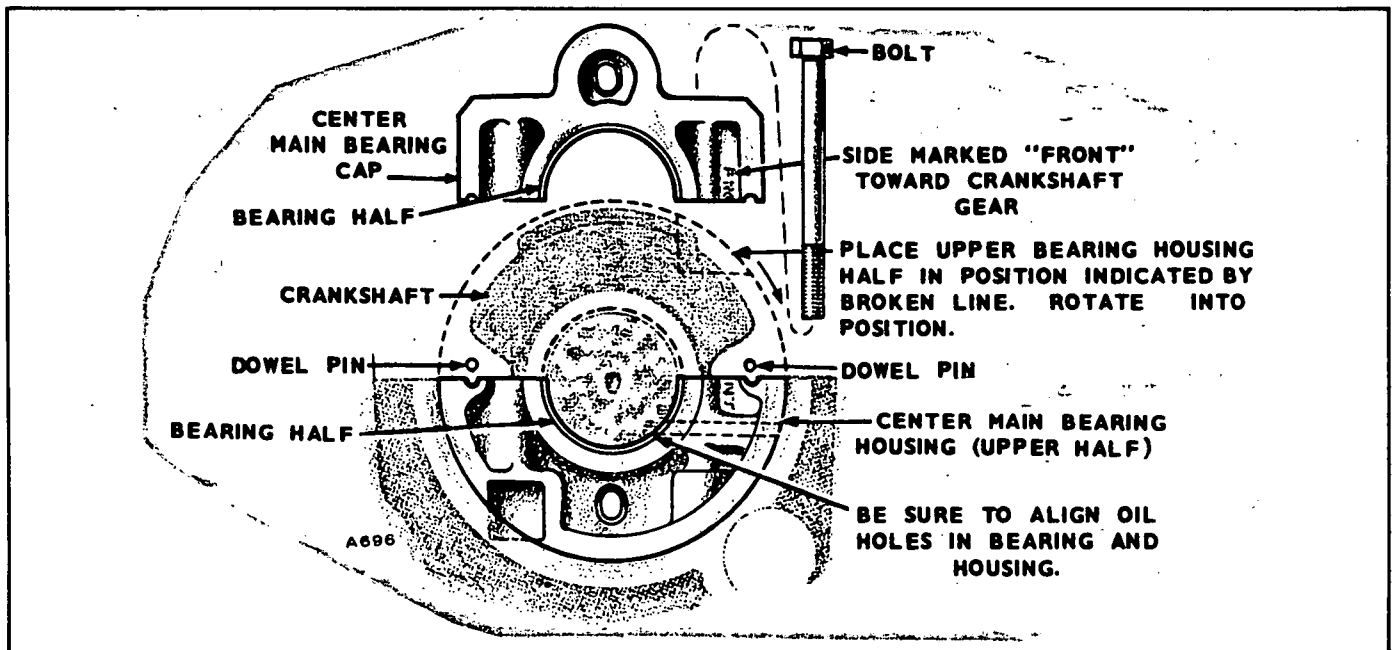

FIGURE 59. MAIN BEARING HOUSING
6. Four cylinder only: Set the upper half of the center main housing on the crankshaft and rotate it into place. See Figure 59. Be sure it is installed with the side marked *front* toward the crankshaft gear. Set the two positioning dowels on the upper bearing mount. Install the center main bearing cap and torque the bolts to 97-102 foot-pounds.